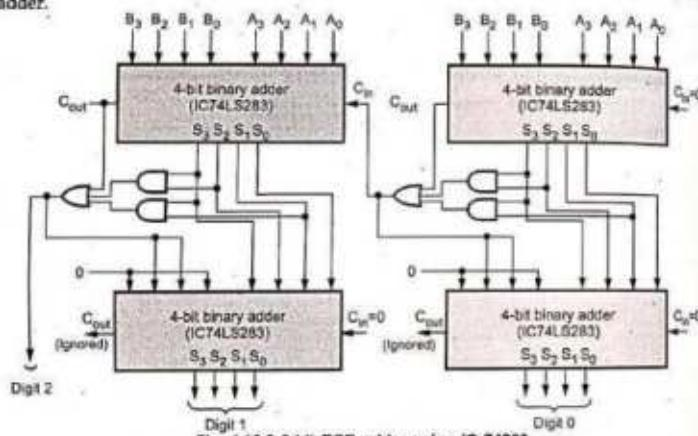

Fig. 4.16.2 8-bit BCD adder using IC 74283
**Solution :** To implement 8-bit BCD adder we have to cascade two 4-bit BCD adders. In cascade connection carry output of the lower position (digit) is connected as a carry input of the higher position (digit). Fig. 4.16.2 shows the block diagram of 8-bit BCD adder.